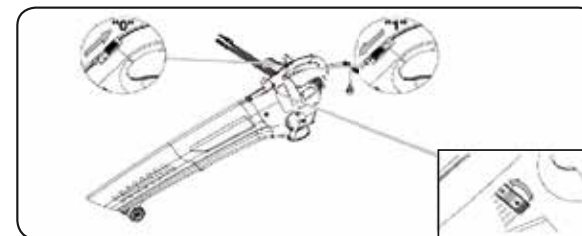

FIG. 2
- To start the tool, press the switch (2) to bring it to the "1" position (Fig.2).
- To stop the tool, move the switch to the "0" position (Fig. 2).